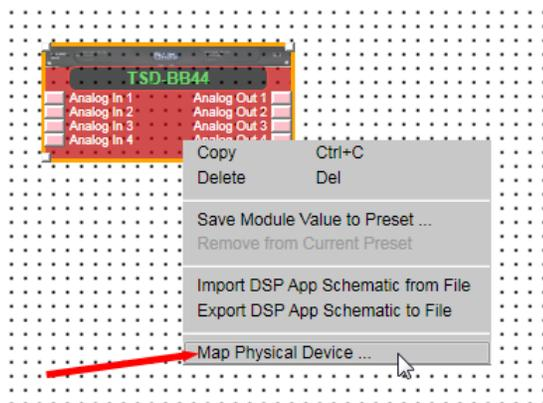

Figure 12
- Right Click the TSD Hardware to "Map Physical Device" and follow the steps shown in Figures 12 and 13 below.